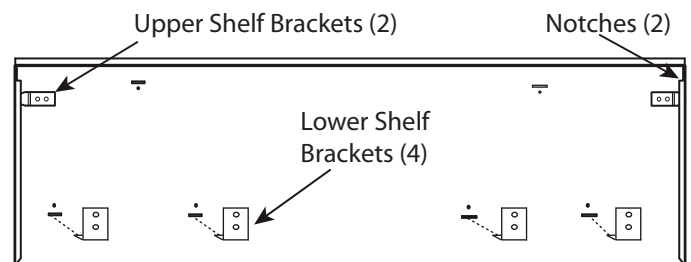

Figure 24: 48" Back of Wall Plate
2. Mount the (2) upper shelf brackets and the (3) lower shelf brackets on the 30" & 36" models or (4) lower shelf brackets for the 48" model at the locations outlined on the templates. Secure with (10) 1" (25.4 mm) screws provided.
5. Install the wall plate by setting the corner notches (back of wall plate) atop the (2) upper shelf brackets.
6. Slide the shelf upwards until the bottom engages with the lower shelf brackets (Figure 24).